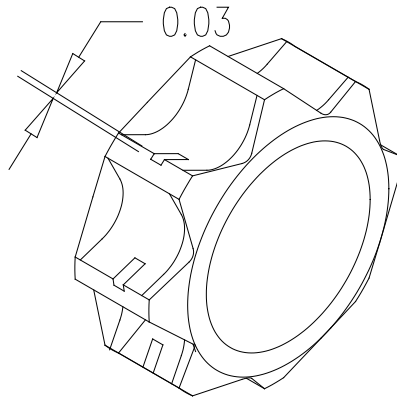

Figure 4-4
1. Check the wear marks on the driving face. Replace the drive sprocket before the wear marks are deeper than 1/32” as shown in Figure 4-4. The outside diameter is also wearing surface. Do NOT turn around and continue using a worn drive sprocket. A worn drive sprocket will increase wear on the chain chassis.